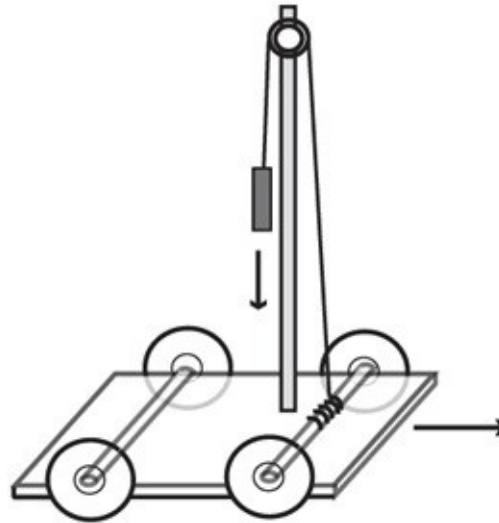

Figure 55-1 *Kilogram car.*
1. Assemble the car. Use Figure 55-1 as a guide, but feel free to develop and build your own concept.